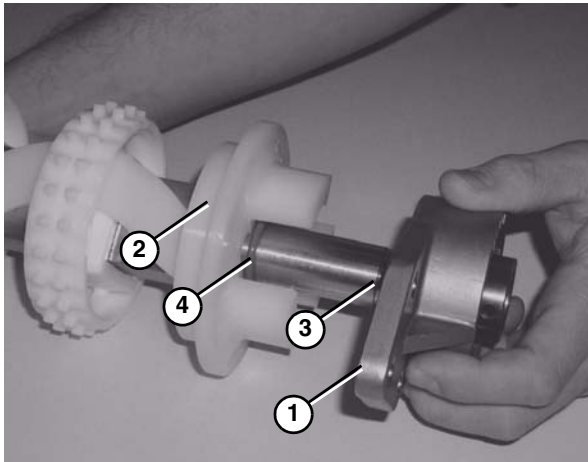

Figure 64
- Slide the 3 hole flange with bearing (**Figure 64, item 1**), spacer (**Figure 64, item 3**), O-Ring (**Figure 64, item 4**), and flanged puck (**Figure 64, item 2**) off of the drive spindle.